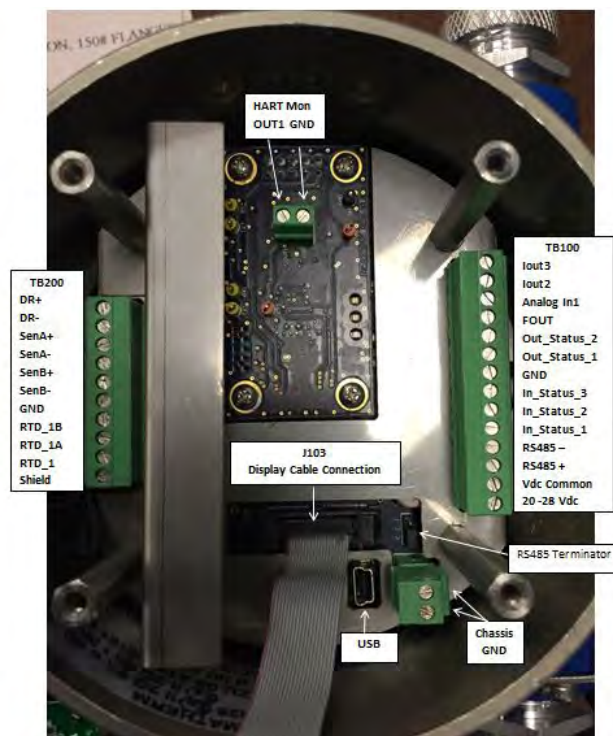

Figure 26: Wiring reference: RCTX with display shown and display board removed for clarity
1. Connect an 18...28V DC Class 2 power source as illustrated in the schematic in *Figure 26*. Terminal blocks in the RCTX accommodate wire gauges up to 16 AWG.
**TB100** (See *Figure 26*.)